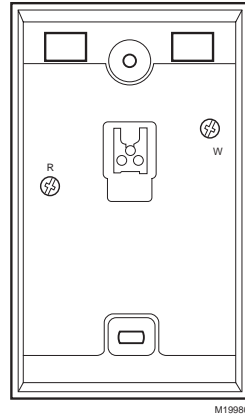

Fig. 4. R and W terminals on new thermostat.
2. Loosen the R and W terminal screws on the back of the new thermostat (see Fig. 4).
3. Remove the two wires from the pencil and attach one wire to the R terminal and the other wire to the W terminal (see Fig. 4 and 5).